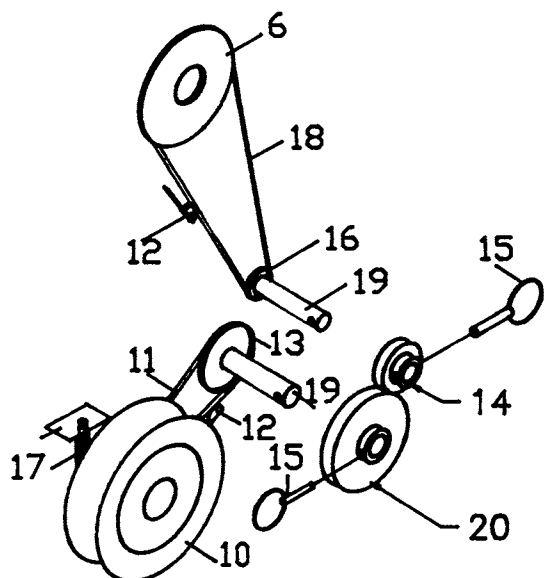

FIG.2.
4.0 ENTRAÎNEMENT DE L'ARBRE DE SEMIS fig 2.